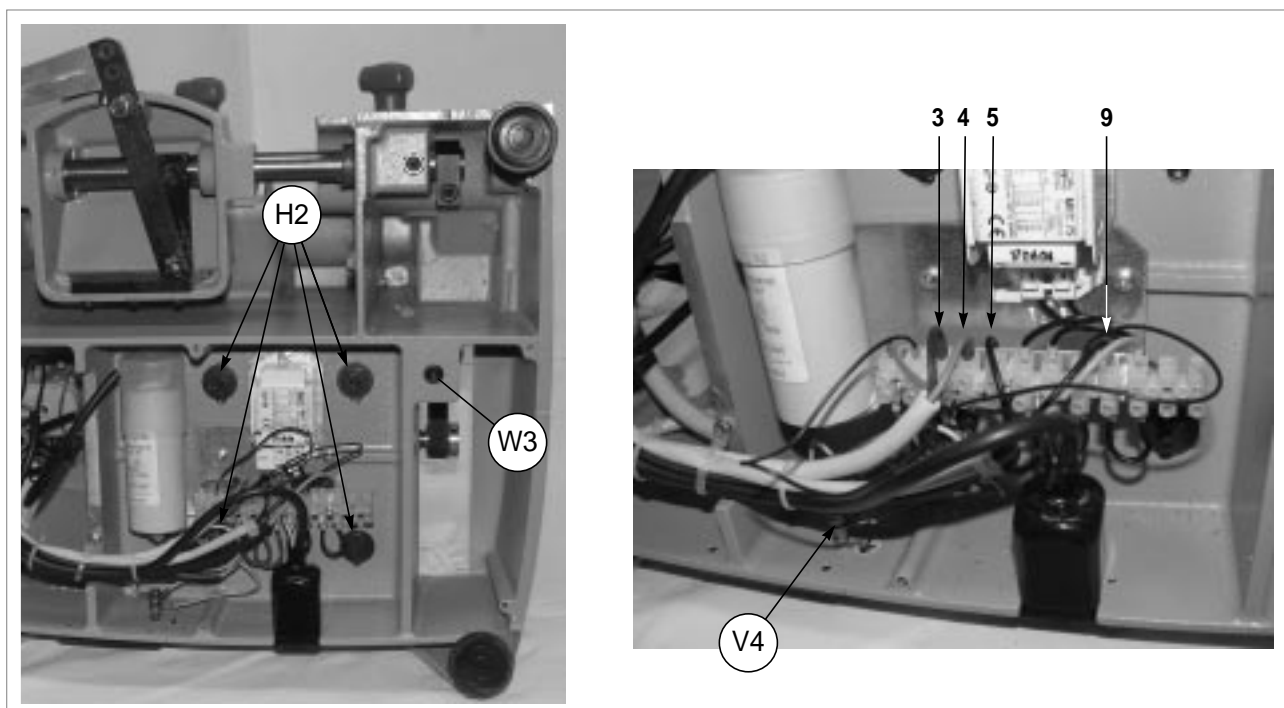

Fig. 37
- 7) Loosen the grub screw (W3) (fig. 37) in order to lower the belt tightening pulley and allow the belt to come off the motor pulley.
- 18) Tighten (first place the washers in position) the 4 motor fixing nuts (H2) (fig. 37).